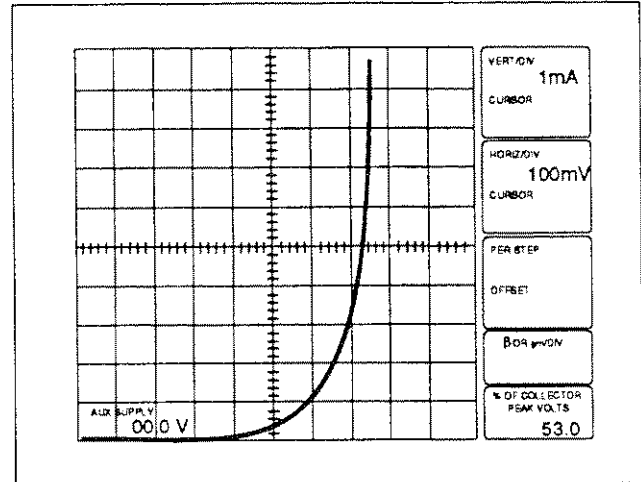

Figure 3-3. Display of signal diode forward-bias characteristics.
7. Turn the VARIABLE COLLECTOR SUPPLY control clockwise. Note the display of the forward voltage characteristic of the diode (see Figure 3-3).